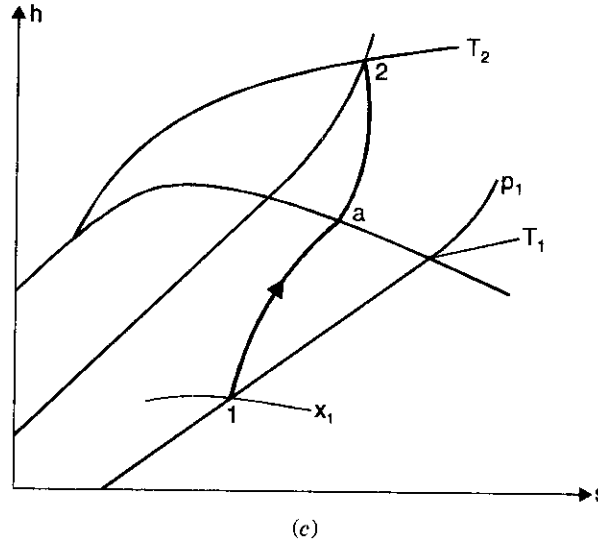

Fig. 4.57. Constant volume process.
1. Constant Volume Heating or Cooling. The constant volume heating process is represented on p - v , T - s and h - s diagram as shown in Fig. 4.57 (a), (b), (c) respectively. It is assumed that the steam is in wet condition before heating at pressure p_1 , becomes superheated after heating and pressure increases from p_1 to p_2 .